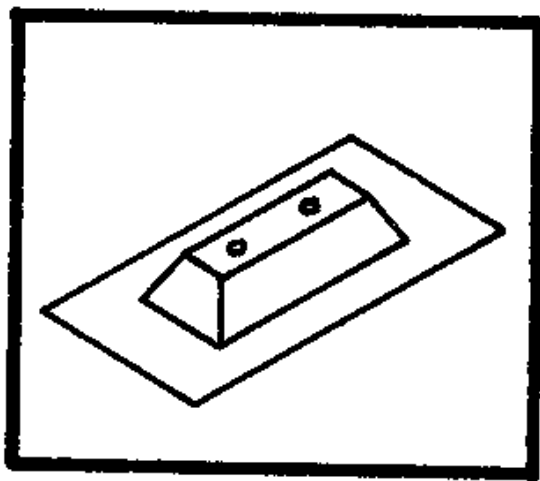

Fig. 22 - "Frog" Mold.
71. Frog A wooden "frog" (see Fig. 22)